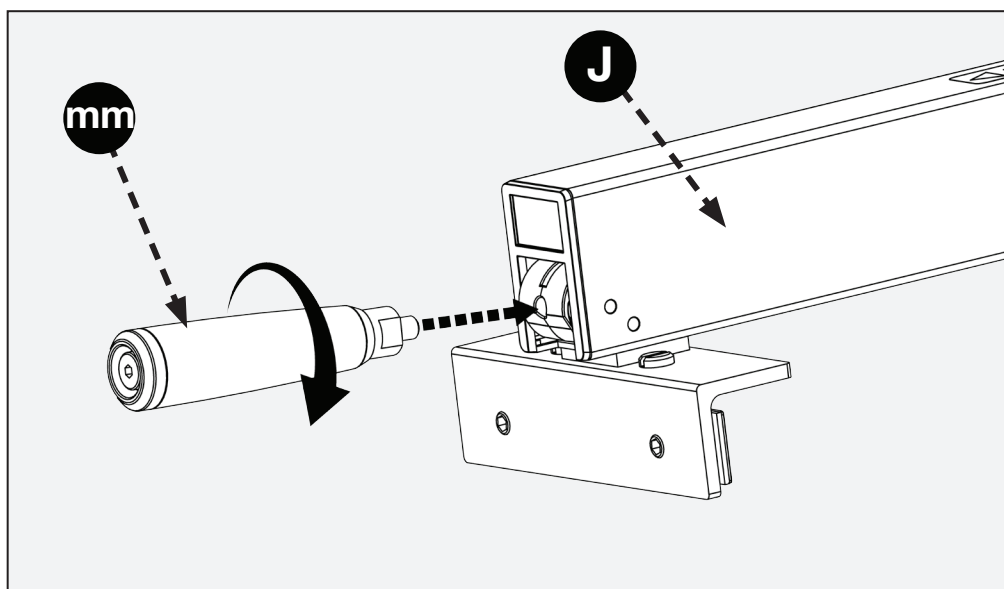

FIGURE 29
Assemble handle (mm) to fence assembly (J) as shown in Figure 29.